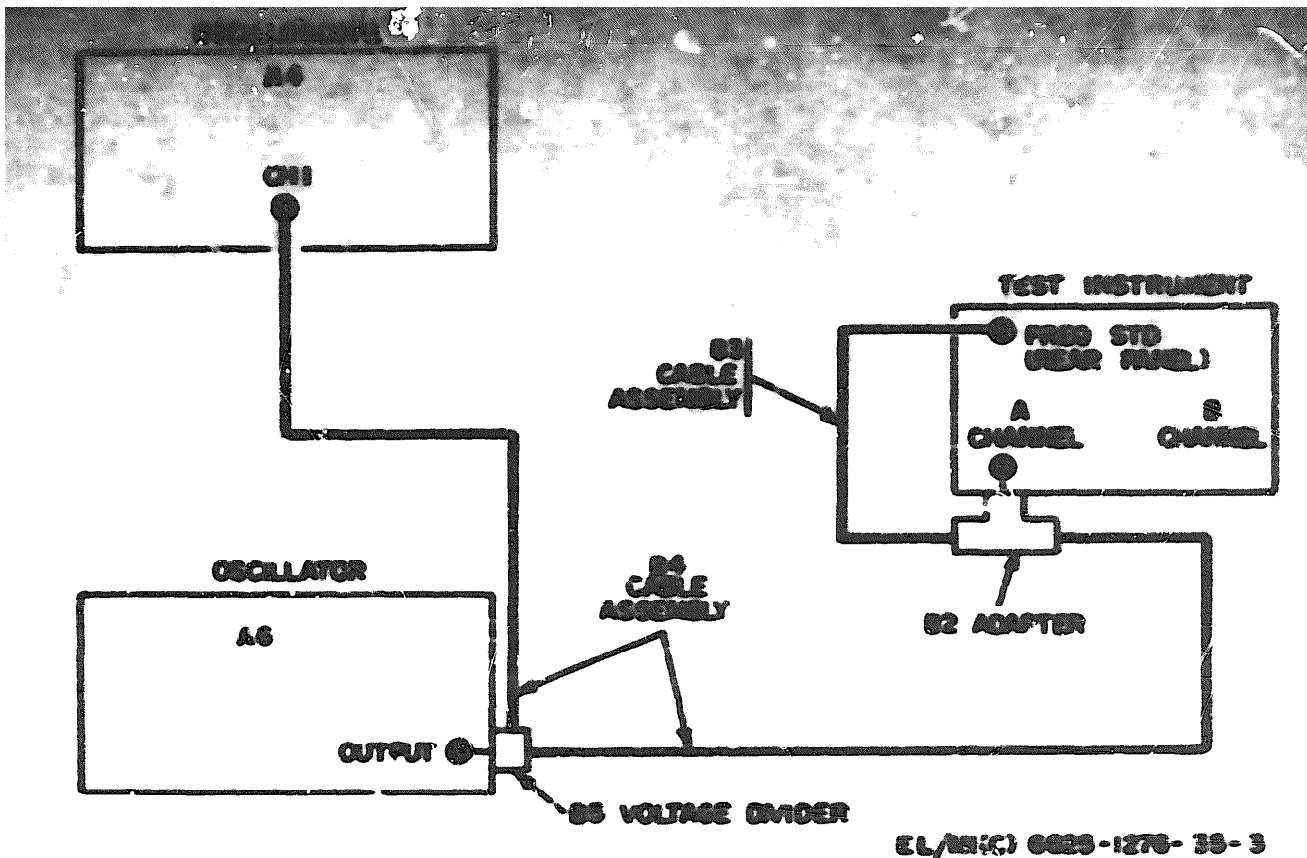

Figure 3. External Standard Input Sensitivity, equipment setup (C Level).
(1) Connect equipment as shown in figure 3.